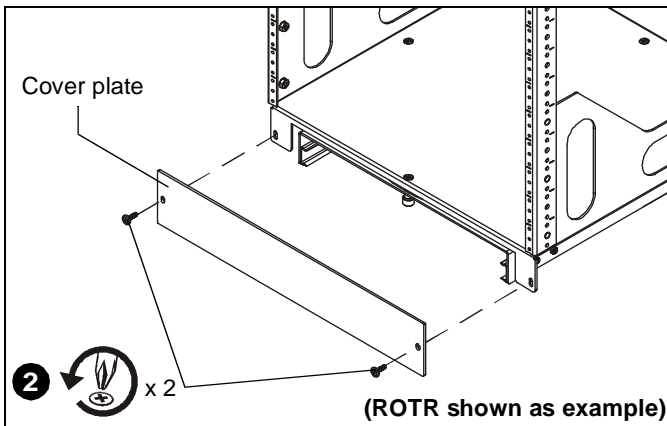

Figure 2
2. Remove and **SAVE** two screws from POTR/ROTR front and remove the cover plate. (See Figure 2)